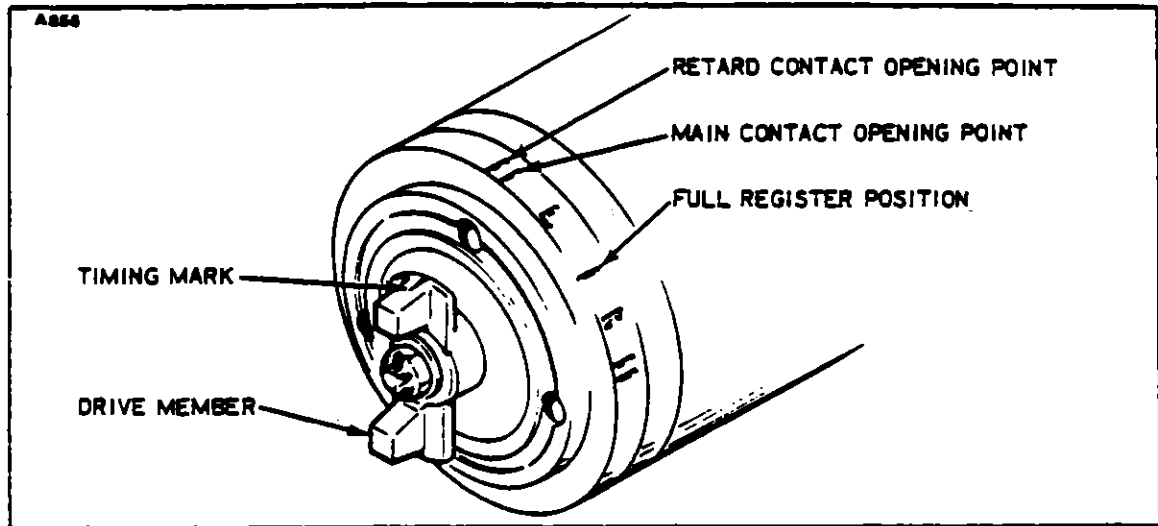

FIGURE 7B-8. MAGNETO TIMING MARKS
b Loosen cam securing nut and run nut up flush with end of shaft. Loosen nut on drive end of rotor shaft. Remove main and retard contact assemblies and capacitor from breaker support assembly. Rework a plain washer as shown in Figure 7B-9. Slide inside diameter of washer against rotor shaft between cam and breaker support assembly. Tighten nut on drive end of magneto until cam is loose on rotor shaft. Remove reworked washer from housing.
c. Remove cam securing nut and lift out cam. Position distributor finger on cam flange and file a notch on edge of cam flange aligned with proper timing mark on finger. (Refer to Figure 7B-10) Reposition cam on rotor and install securing nut flush with end of rotor shaft. Be sure notch on cam can be seen when looking in contact assembly end of magneto.